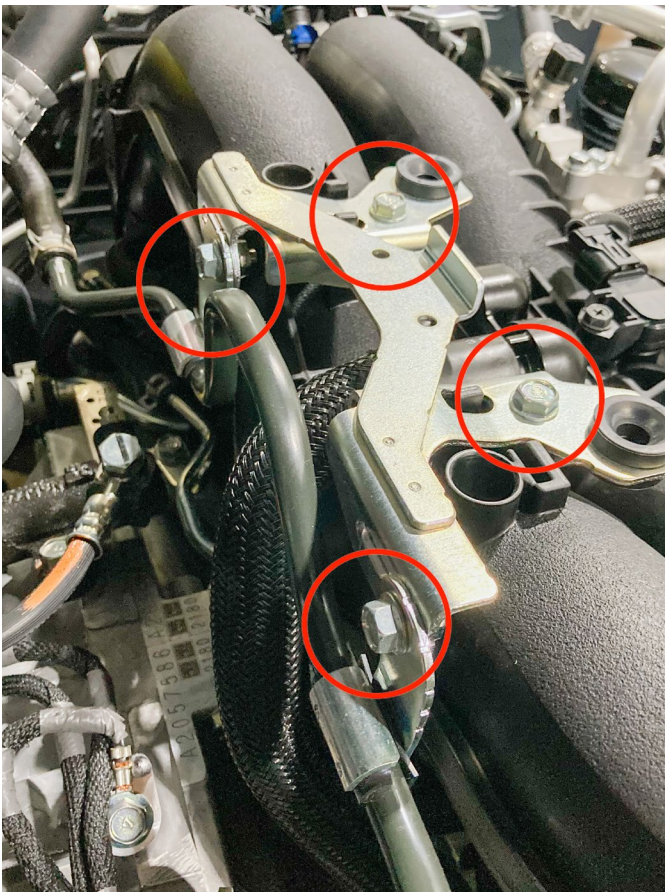

Figure 7
6. Remove the (4) M6 bolts and remove the OEM manifold hard line retainer. This will allow access to the PCV hose on top of the manifold. (Fig 7)